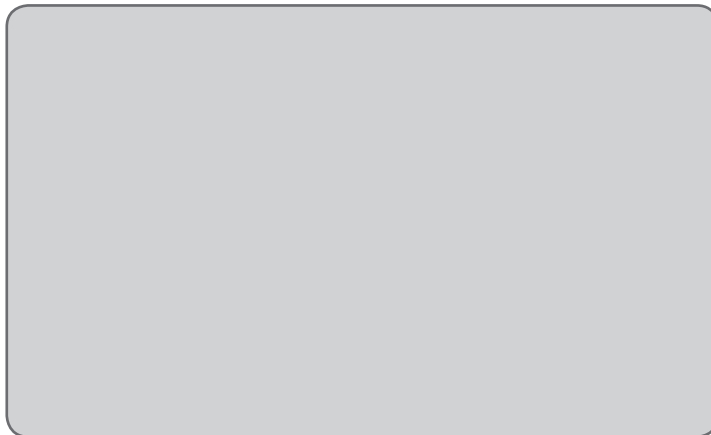

Figure 27: Using the locator to position the Thigh FS Cuff on the quadriceps.
3. Place the Thigh FS Cuff on the front of your thigh (quadriceps muscle), with the locator arrow facing up and pointing toward the center of your knee. See Figure 27.